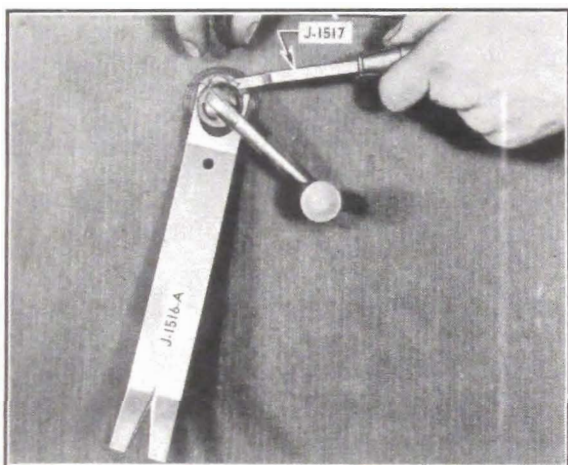

Fig. 1-52. Inside Handle Removal
- expose slot in handle. See Fig. 1-52. Use